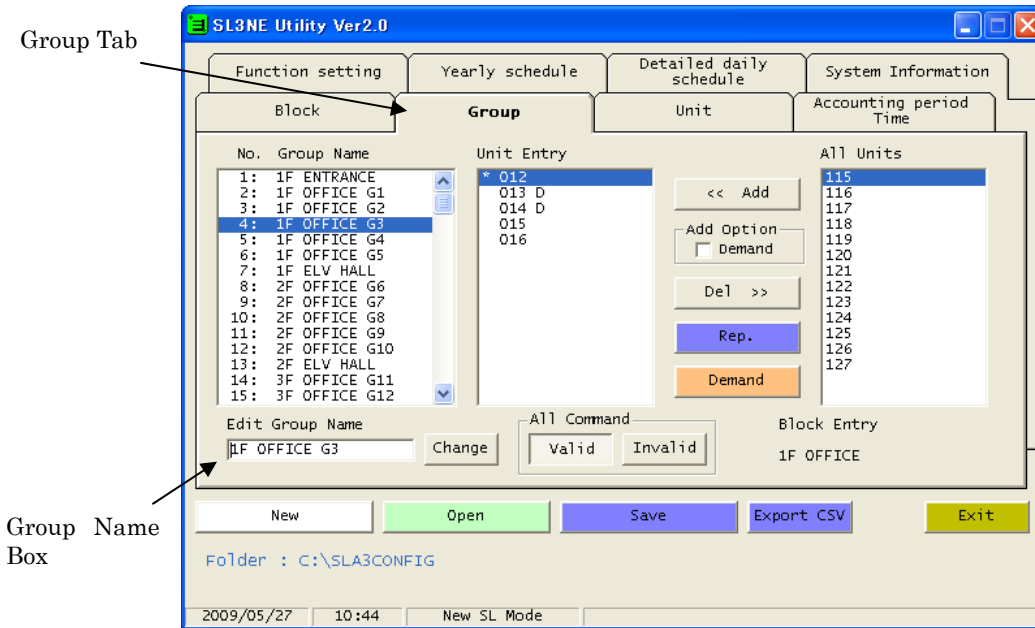

Fig.5 Group Definition screen (New SL Mode)
- Click on the “Group” tab, the Group Definition screen shown in Fig.5 will appear.